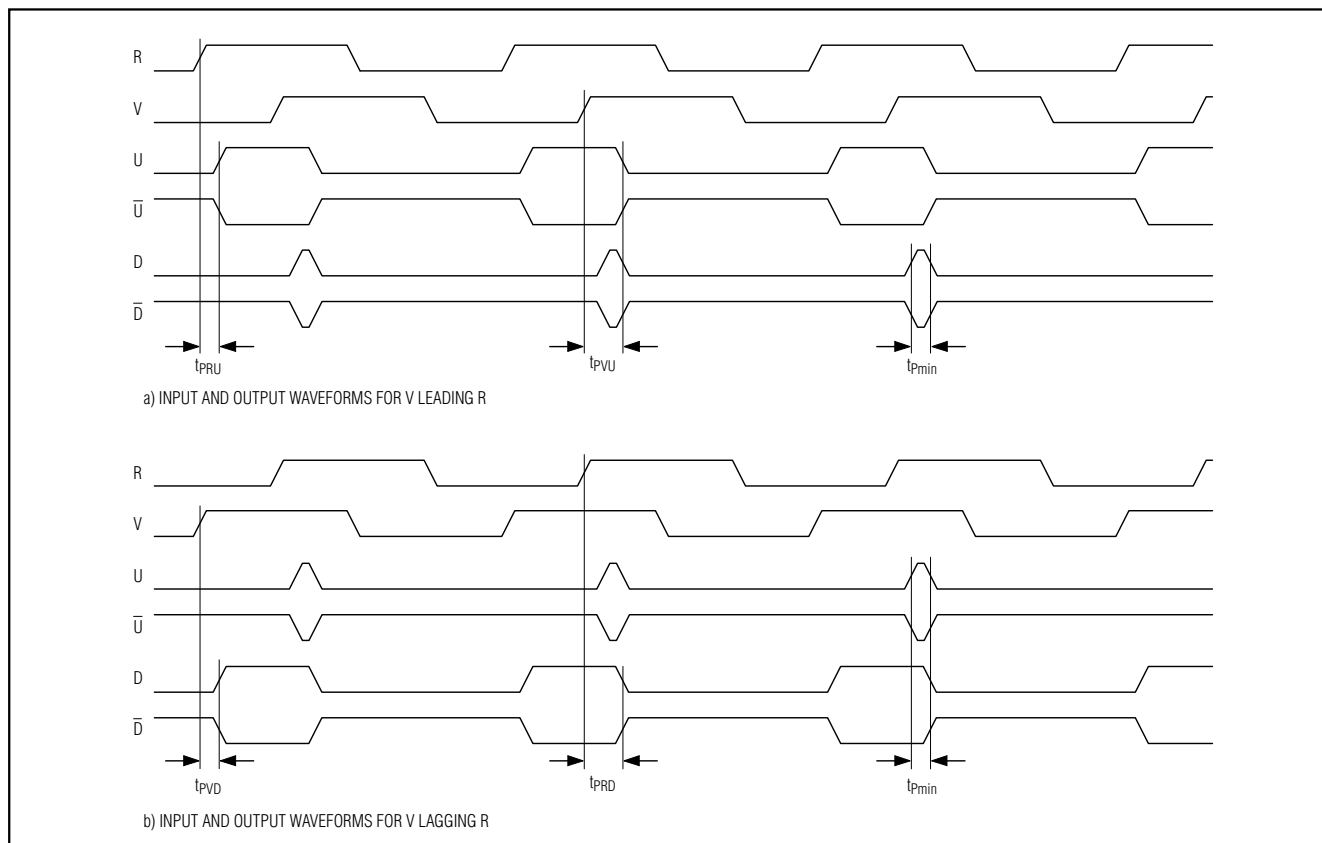
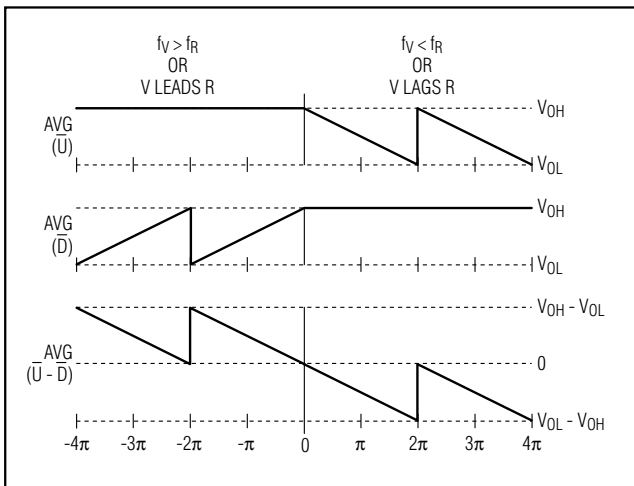

Figure 1. Typical Waveforms when $f_R = f_V$
Figure 3. Average Output Voltage vs. Phase Difference
The MAX9382/MAX9383 are intended for use in high-bandwidth PLL applications. These devices compare a single-ended VCO input (V) to a single-ended reference input (R) to determine the phase or frequency relationship between V and R. The device differential outputs U, $\bar{U}$ and D, $\bar{D}$ provide pulse trains with duty cycle proportional to the phase or frequency difference between R and V. These outputs are the up and down signals required to control the system VCO. Figure 1 shows typical waveforms when V leads R and V lags R. Subtracting and integrating these two outputs provide the necessary VCO control signal. Figure 3 shows the device transfer function obtained. The detector can